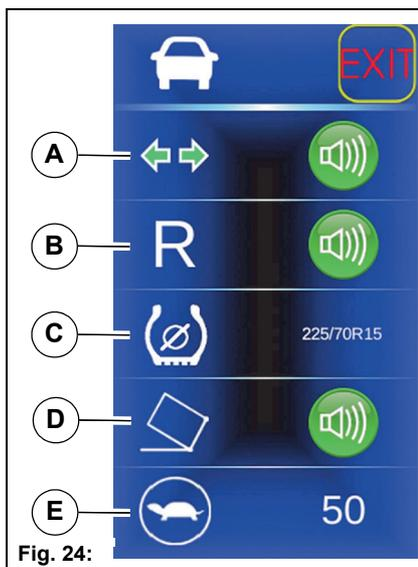

Fig. 24:
**Driving settings menu Fig. 24**